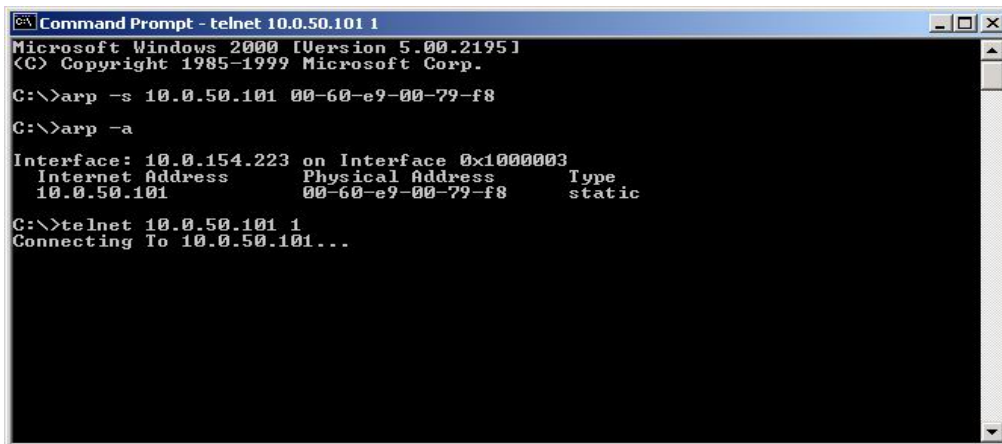

Fig. 34. Assigning a new IP address with ARP command
Step2: Change to the new IP via Telnet port 1(Fig. 34)